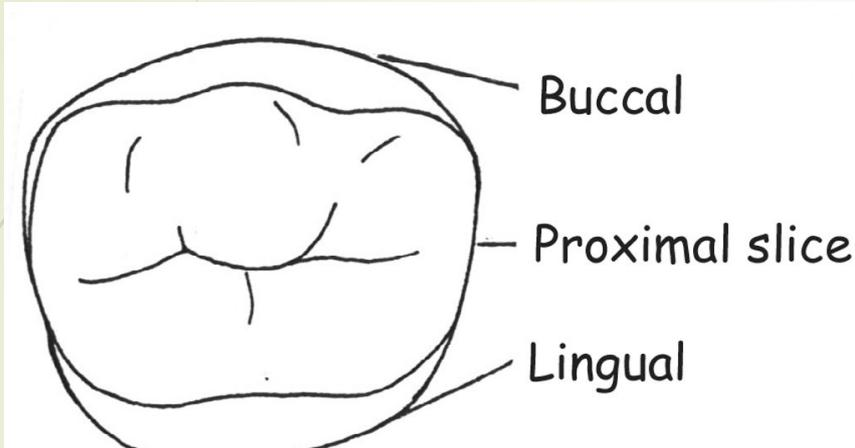

Figure 6 - Rounded line angles
6. **Round all line angles** – Using the side of the bur, round the proximal (MB, ML, DL and DB) and occlusal line angles and eliminate any ledges. See Figure 6.